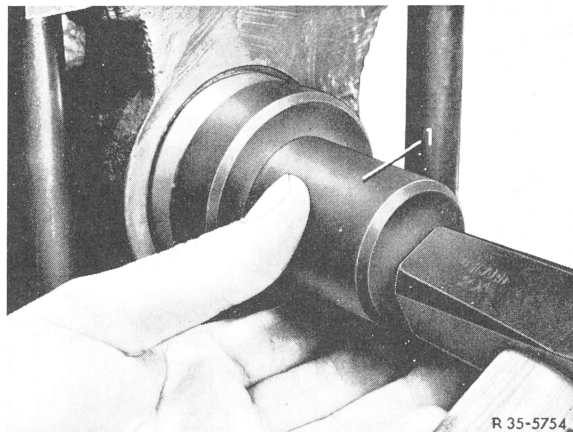

Fig. 6
- 10 Coat new sealing ring on OD with sealing compound and knock in against stop in rear axle housing with thrust piece (Fig. 6).